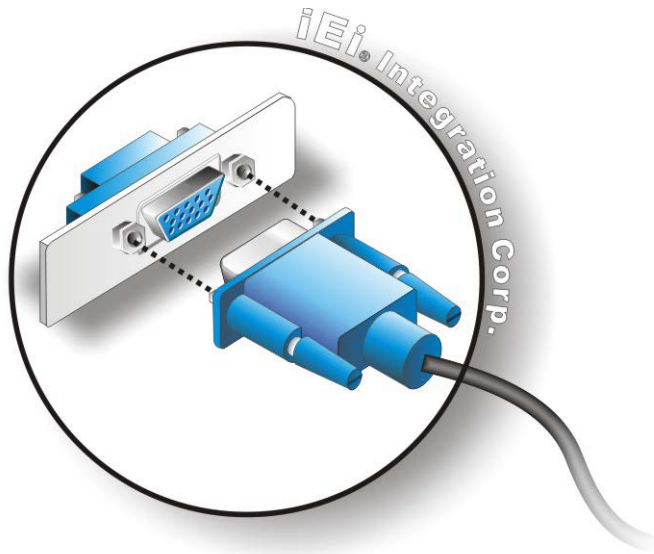

Figure 3-14: VGA Connector
Step 3: **Insert the VGA connector** Once the connectors are properly aligned with, insert the male connector from the VGA screen into the female connector on the TANK-620-ULT3. See **Figure 3-14**.